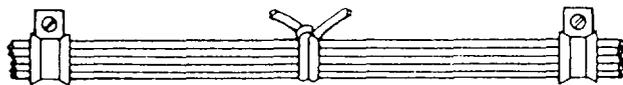
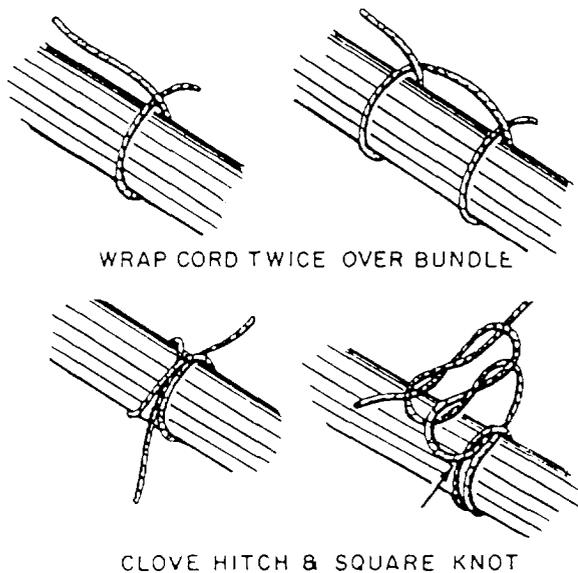

Figure 2-63.—Use of spot ties.
Figure 2-64.—Making spot ties.
**SPOT TYING.**— When cable supports are used in equipment, as illustrated in figure 2-63, spot ties are used to secure the conductor groups if the supports are more than 12 inches apart. The spot ties are made by wrapping the cord around the group (fig. 2-64). To finish the tie, a clove hitch followed by a square knot